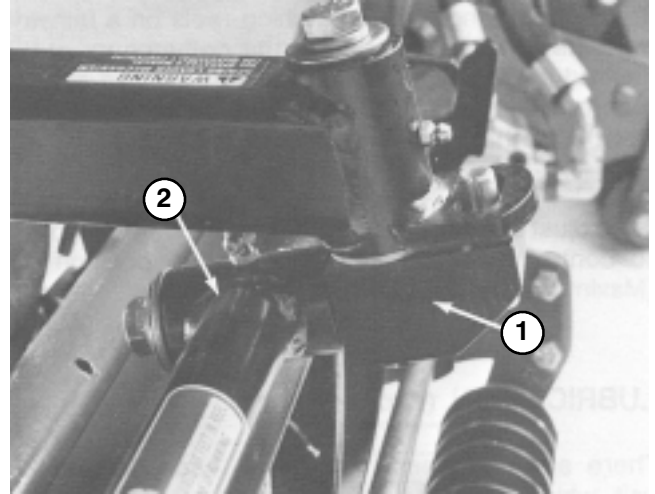

Figure 6
INSTALLING DETHATCHER REELS (Fig. 6–7)
2. Align the horizontal shaft of the dethatching unit attaching joint with the pivot tube on the carrier frame. Insert the attaching joint into the tube (Fig. 6).